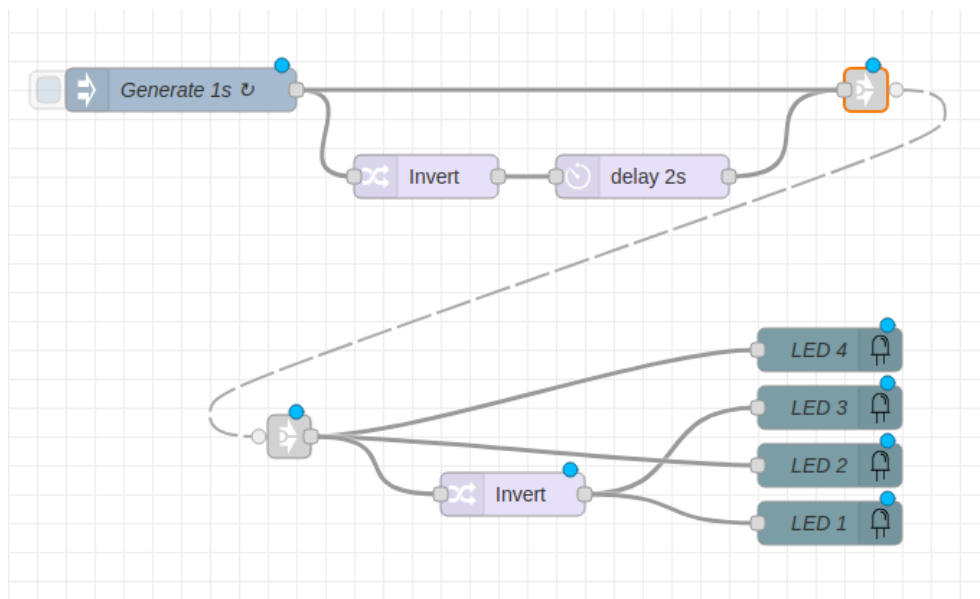

Figure 4-58: Completed Warning Light Flow
- Substitute one of your Null node creations for each Link Out and Link In node in Figure 4-58.